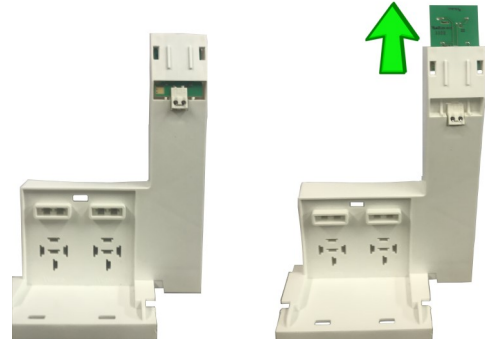

Figure 1
1. Unclip the old printed circuit board (PCB) from the plastic assembly. Pull the PCB up and it will come out of the assembly. Then disconnect the edge connector from the PCB. (See Fig.1)